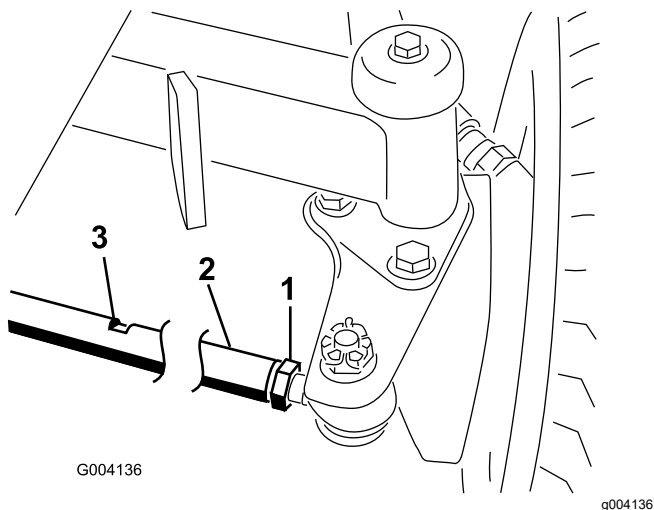

Figure 61
2. Loosen the jam nut on each end of the tie rod (Figure 61).
- To pivot the wheels, rotate the tie rod to by turning it at the wrench flats (Figure 61).
- Tighten the jam nut on each end of the tie rod (Figure 61).